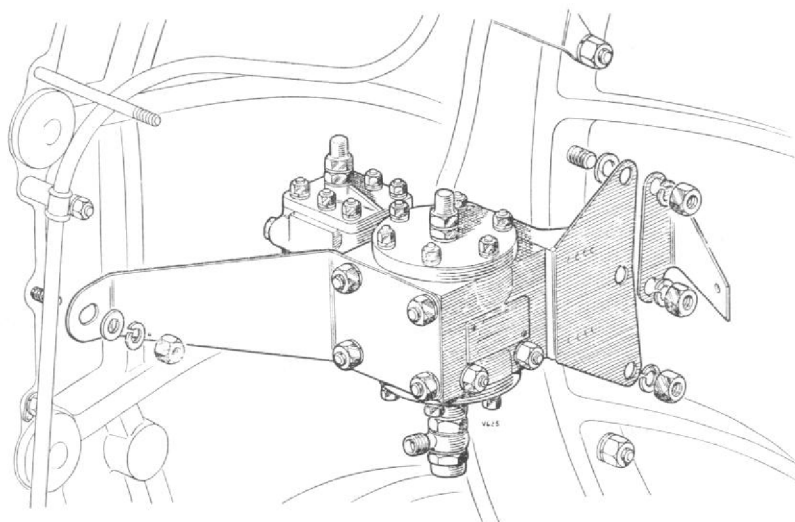

Fig. 6. Air-fuel ratio control unit and attachment brackets.
2. Remove the three $\frac{1}{4}$ in. B.S.F. plain nuts, spring and plain washers from the three studs situated on the diffuser casing between No. 16 and No. 17 diffuser bolts to which the A-F.R.C. bracket is attached. Where mod. 393 has been embodied the outboard bracket is secured to the diffuser casing by only one $\frac{1}{4}$ in. B.S.F. nut, spring and plain washers (Fig. 6).